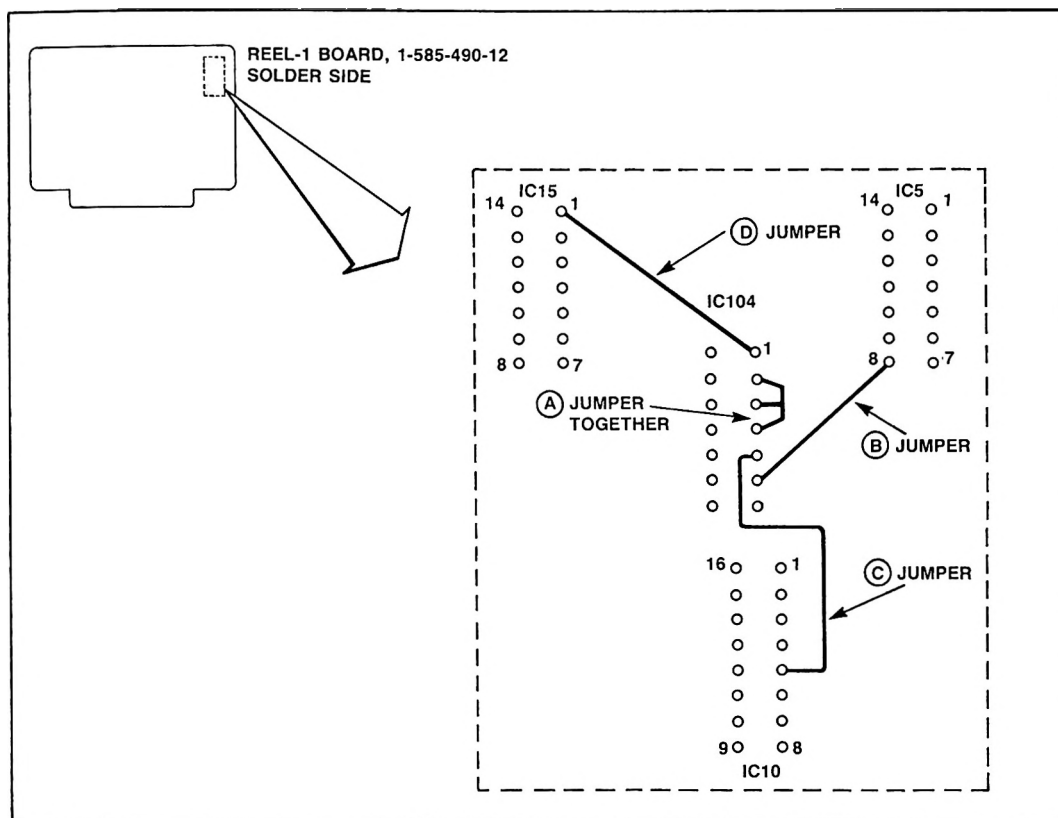

Figure 4
4. Add the following jumpers (See Figure 4.):